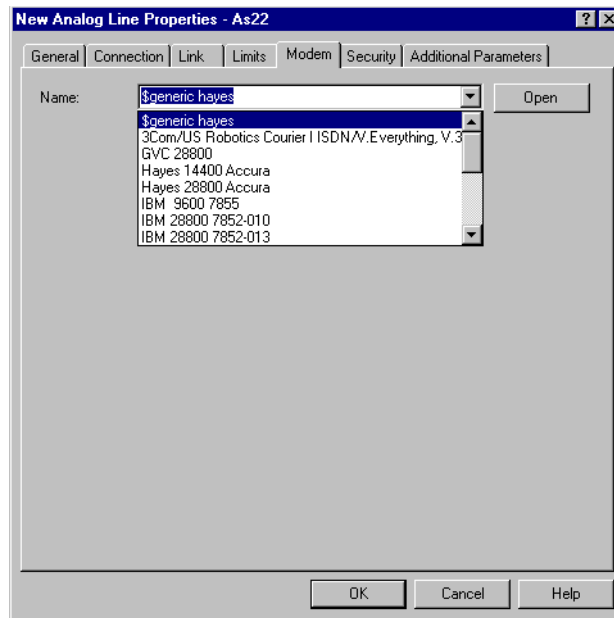

Figure 190. Selecting the correct modem
- c. In the **Modem** tab as shown in Figure 190 on page 218, specify the modem type that you are using. Click **OK** to return New Point-to-point Properties dialog box.